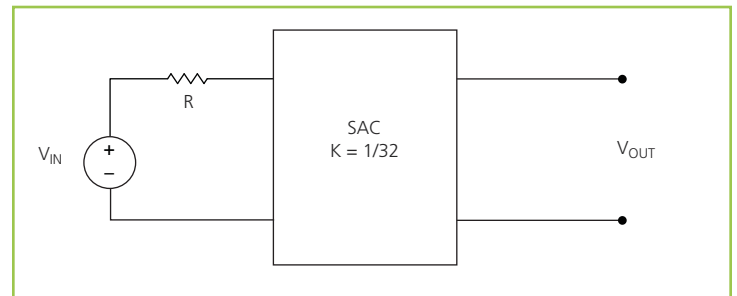

Figure 18 – $K = 1/32$ Sine Amplitude Converter with series input resistor
interesting attributes. Assuming that $R_{OUT} = 0 \Omega$ and $I_Q = 0 A$, Eq. (3) now becomes Eq. (1) and is essentially load independent, resistor R is now placed in series with V_{IN} as shown in Figure 18.
Assuming that $R = 1 \Omega$, the effective R as seen from the secondary side is $0.98 \text{ m}\Omega$, with $K = 1/32$ as shown in Figure 18.